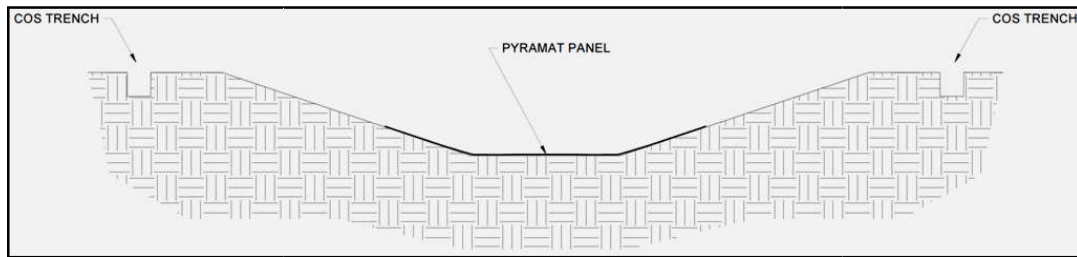
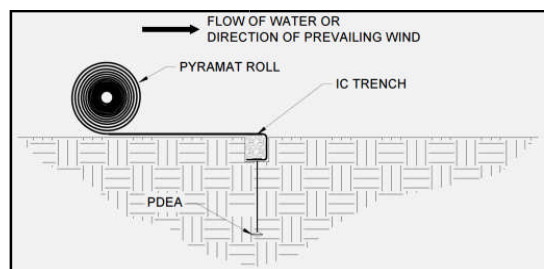
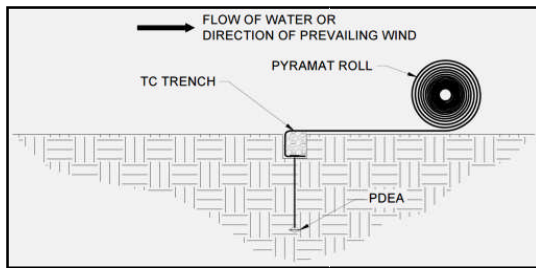

Figure 16: Center Panel Placement
Figure 17: Initial Channel (IC) Trench Complete
Figure 20: Terminal Channel (TC)
6. Starting with the center Pyramat panel (Figure 16), roll the Pyramat rolls over the top of the compacted IC trench and upstream across the surface of the channel (Figure 17). Ensure that Pyramat has intimate contact with the ground and all irregular surfaces beneath the Pyramat are removed.
11. Starting with the center Pyramat panel (Figure 16), roll the Pyramat rolls over the top of the compacted TC trench and downstream across the surface of the channel (Figure 20). Ensure that Pyramat has intimate contact with the ground and all irregular surfaces beneath the Pyramat are removed.